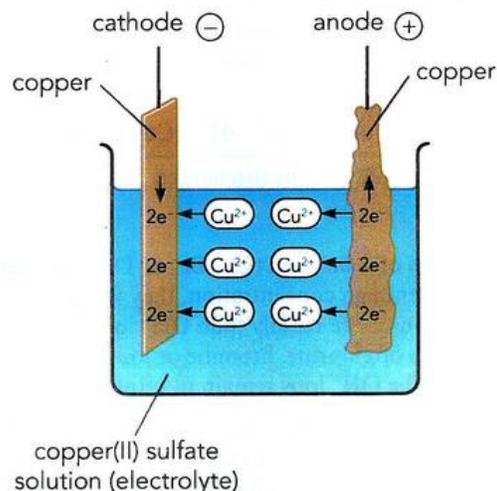

Figure 6.13: The electrolysis of copper(II) sulfate using copper electrodes. The movement of ions effectively transfers copper from one electrode to the other.
Our discussion so far has been about the influence of the electrolyte on the products formed. However, it is possible to use electrodes other than graphite or platinum; electrodes that are not inert. A cell can be set up to electrolyse copper(II) sulfate solution using copper electrodes (not graphite electrodes). As electrolysis takes place, the cathode gains mass as copper is deposited on the electrode (Figure 6.13):